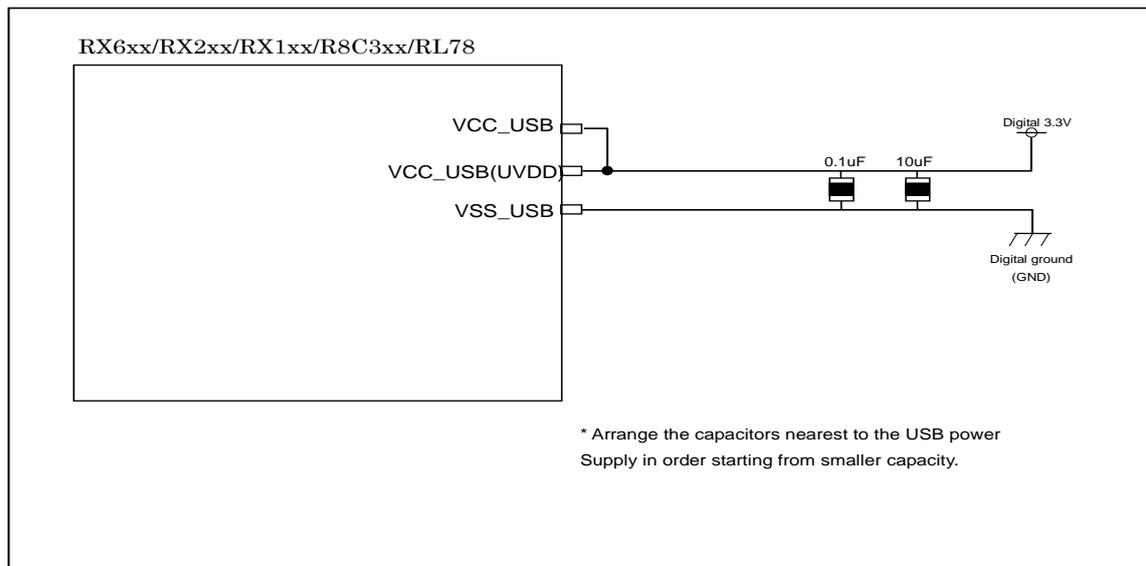

Figure 3 Example of Decoupling Capacitor Allocation
- As the capacitance value of decoupling capacitor, it is recommended that the capacities for 0.1uF, and 10uF are allocated closest to the USB power supply pin. Figure 3 shows an example of decoupling capacitor allocation.